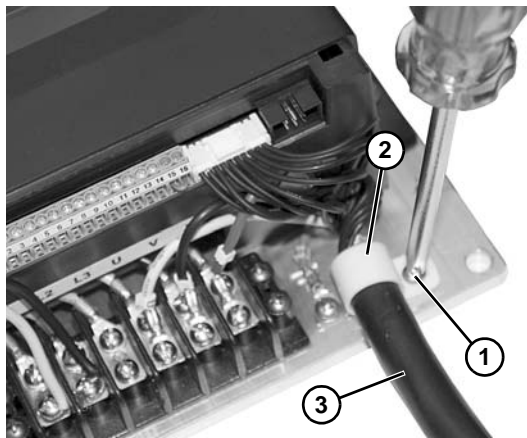

Figure 31
5. Remove screw (Figure 31, item 1) and clamp (Figure 31, item 2) securing motor wiring (Figure 31, item 3) to controller.